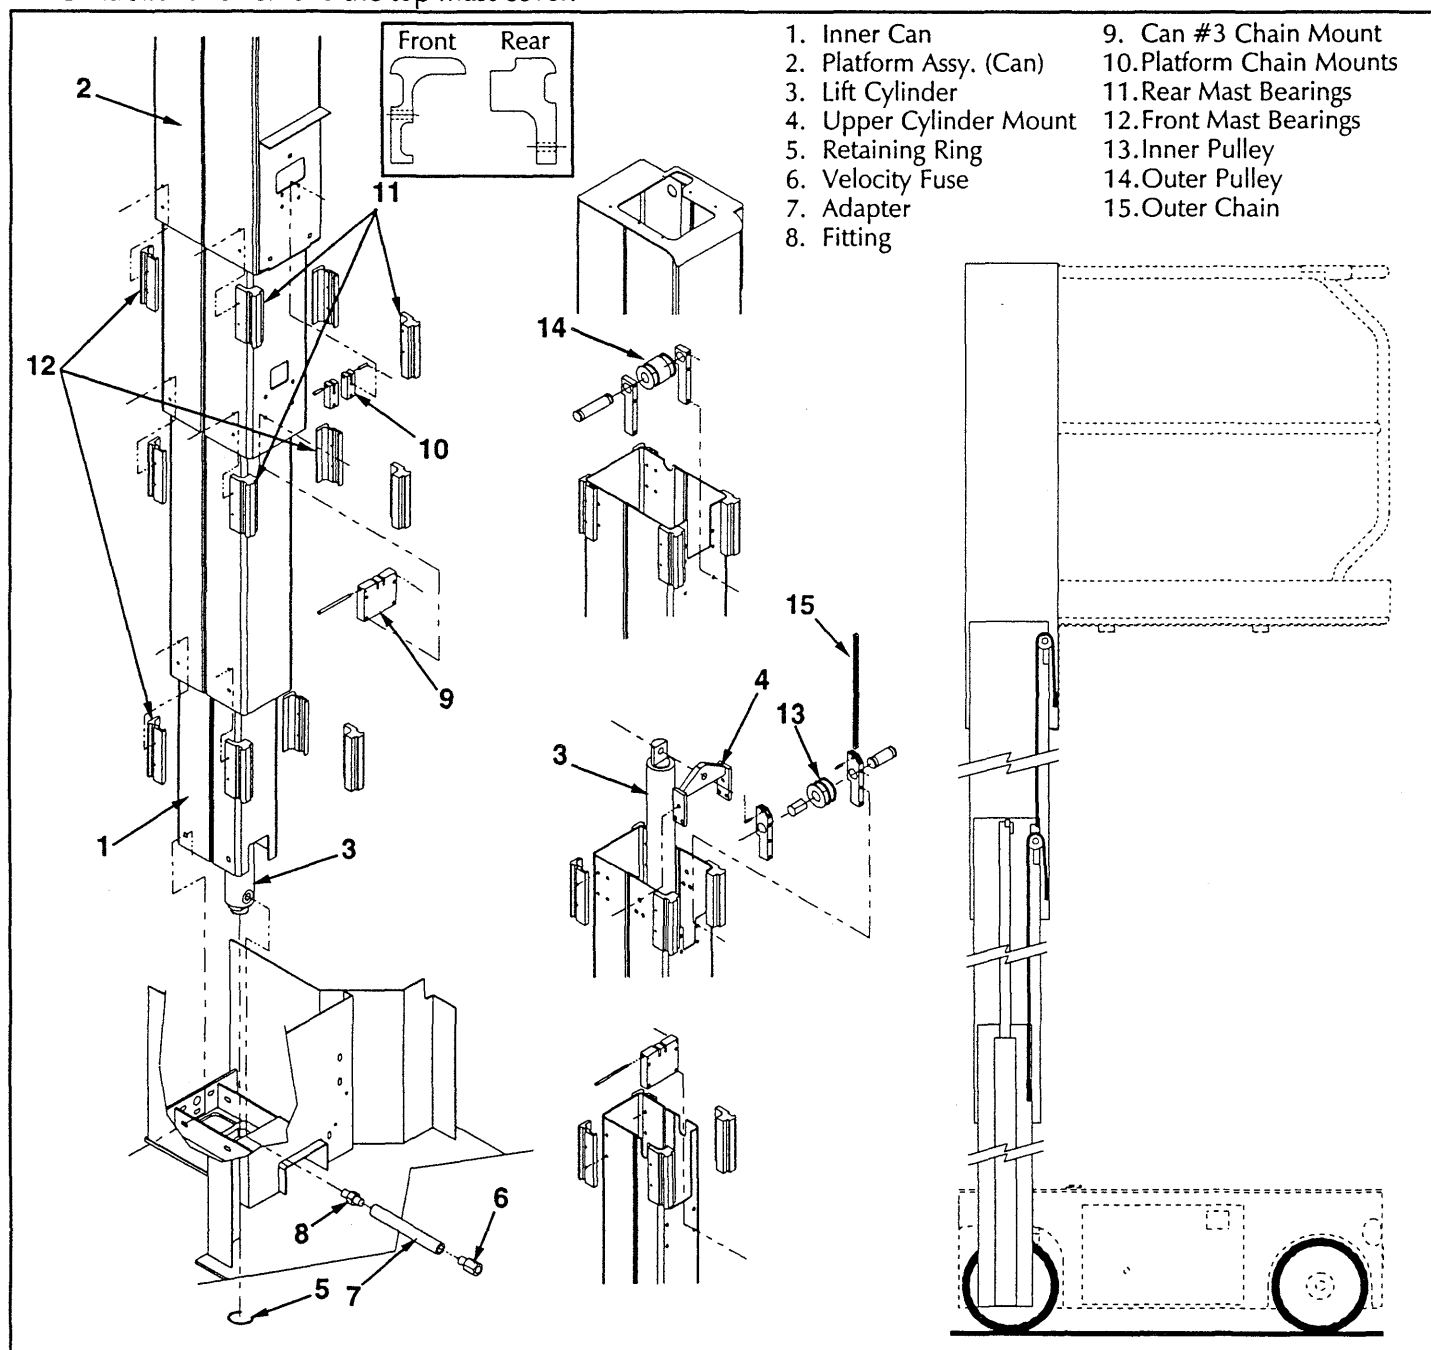

Figure 4-13: Mast Assembly
REMOVAL (Figure 4-13)
REASSEMBLY (Figure 4-13)
INSTALLATION (Figure 4-13)
4.13 Mast Assembly (Figure 4-13)